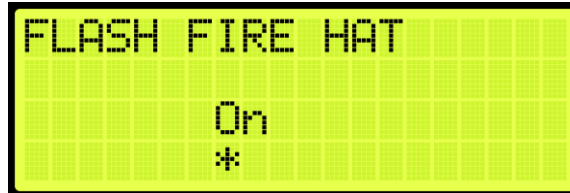

Figure 597: FLASH FIRE HAT Menu
5. From the FLASH FIRE HAT menu, scroll and select On (See Figure 597).